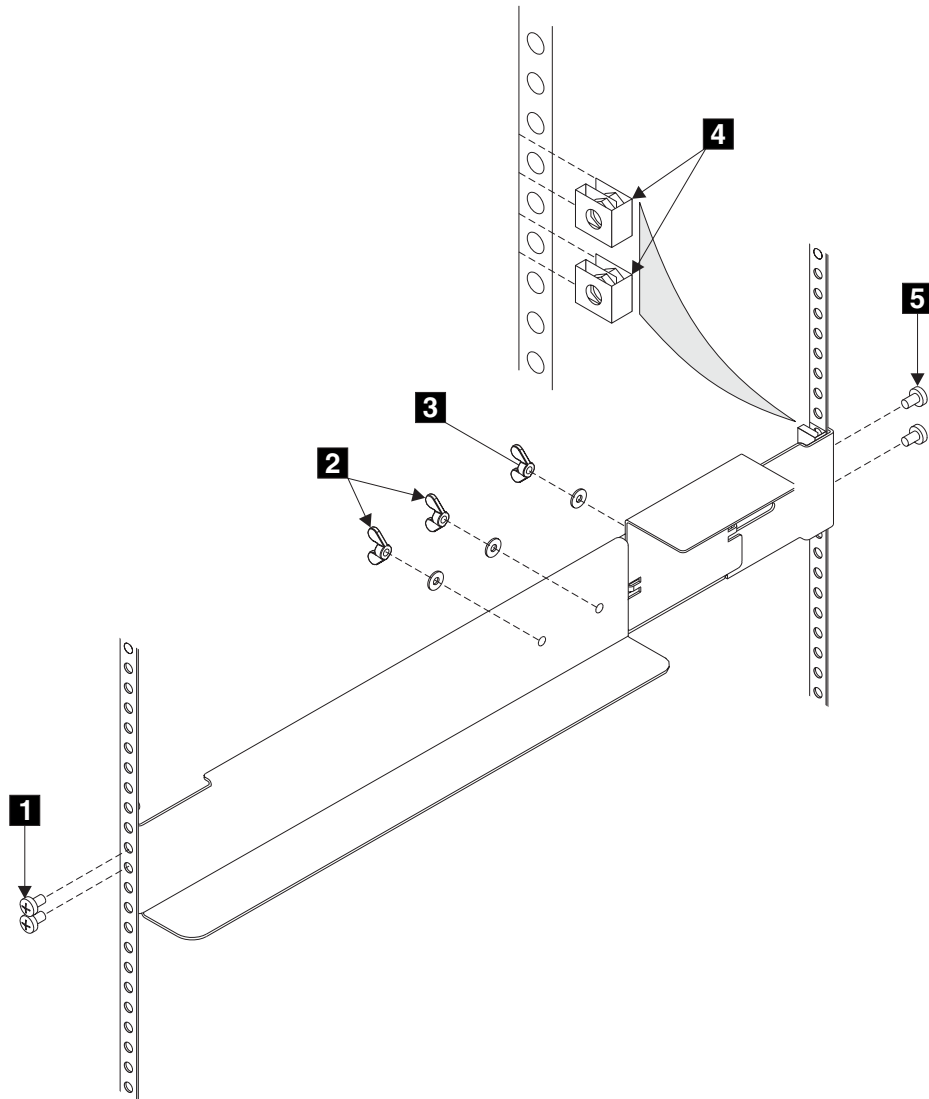

Figure 131. Installing support rails for a uninterruptible power supply into the rack
3. At the back of the rack, observe the EIA positions, and determine where you are going to install the uninterruptible power supply (see Figure 131 on page 186). A uninterruptible power supply must always be installed into the lowest available position in the rack. The only device that can be below a uninterruptible power supply is another uninterruptible power supply.